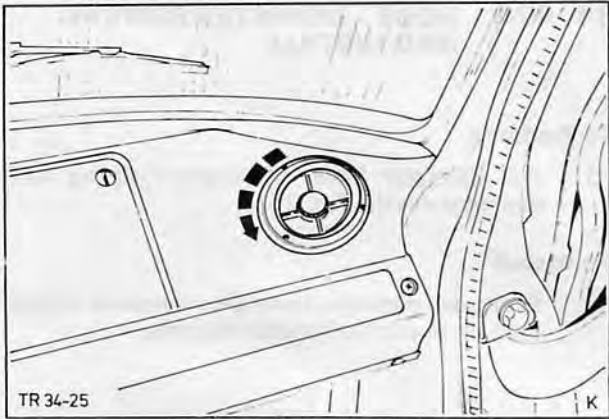

Fig. 28. Remove face level vent
1. Remove vent by unscrewing outer retaining ring, Fig. 28.